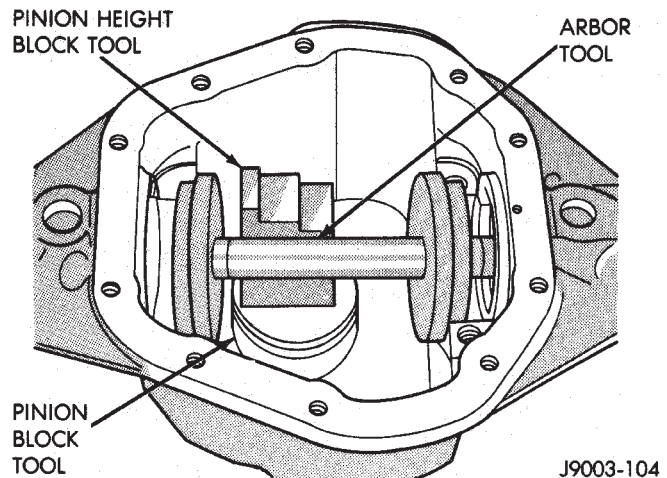

Fig. 49 Pinion Height Block Tool Against Arbor
(3) Place Pinion Height Block D-115-1 on top of master pinion block tool and against arbor tool (Fig. 49).